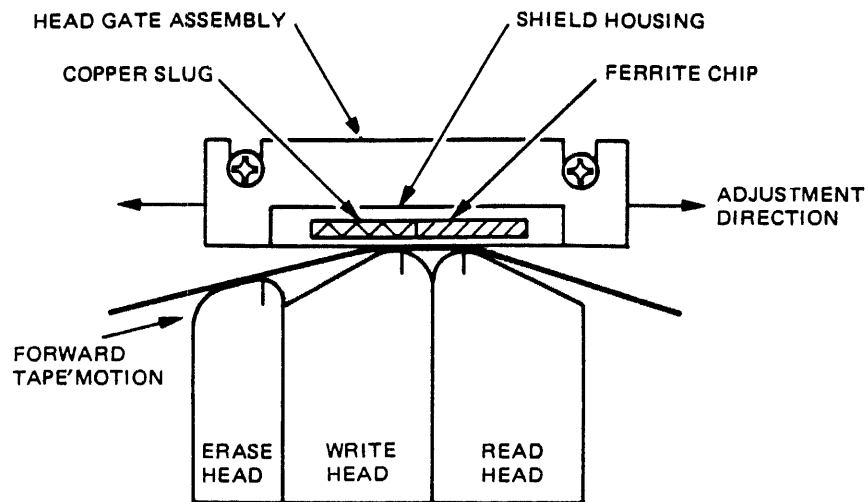

Figure 4-25. Head Gate Adjustment for PE-Only System
- d. Loosen two head-gate screws and reposition gate by moving it in plane shown in Figure 4-25 until minimum amount of modulation is observed on both channels. Edge of ferrite should be approximately opposite write gap. Verify that shield housing is resting on head block at both front and back.